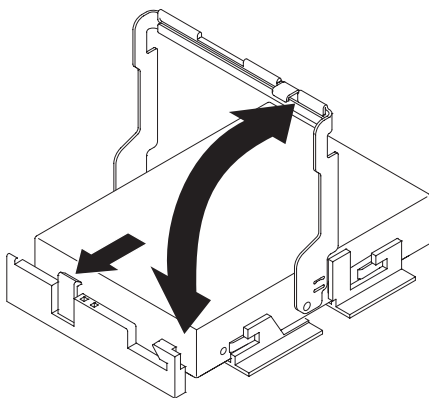

Figure 71. Raising the drive handle
- a. Raise the drive handle to the vertical position, as shown in Figure 71.